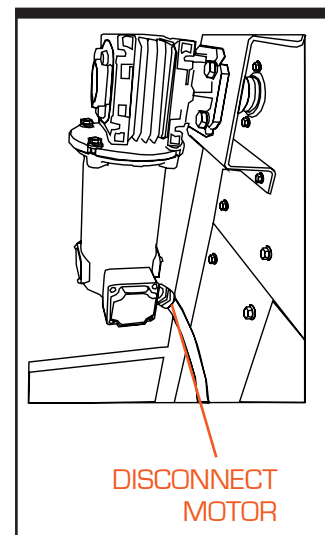

Figure 3-4. Disconnect Power
Step 2—Disconnect Power and Lockout/Tag Out the Prefeeder. If power has already been supplied to the prefeeder, first lock out and tag out the power supply, then disconnect the wiring to the drive motor (undo the nut at the base of the motor connection box and disconnect wiring - see Figure 3-4).